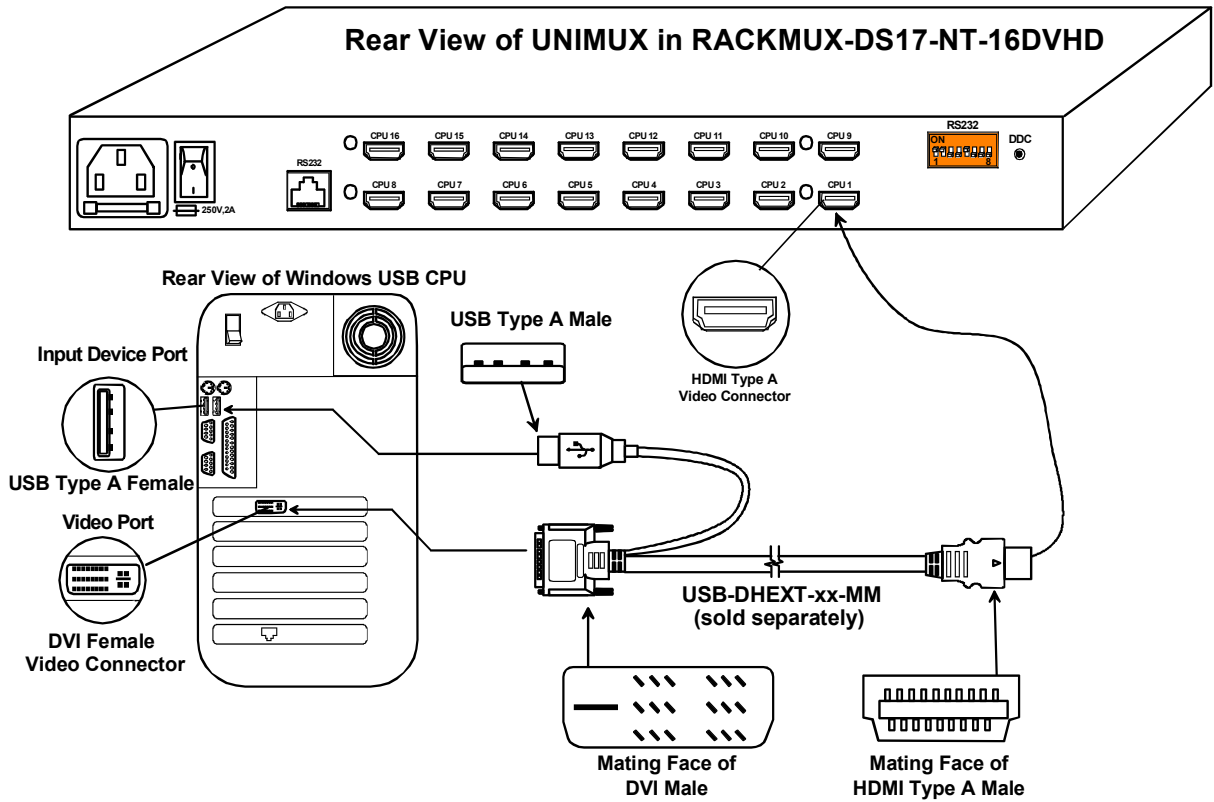

Figure 3- Connect each CPU
1. Connect each CPU to the UNIMUX switch using a USB-DHEXT-xx-MM (Required-not supplied) as shown in Fig. 3.